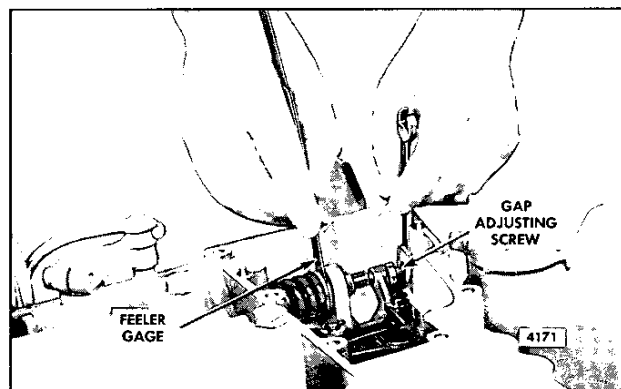

Fig. 11 - Adjusting Governor Gap
5. Insert a .006" feeler gage between the spring plunger and the plunger guide as shown in Fig. 11. If required, loosen the lock nut and turn the adjusting screw in or out until a slight drag is noted on the feeler gage.